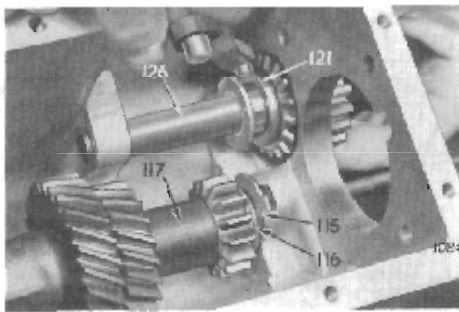

Fig. 31.
Slide the reverse idler gear (121) over the shaft and engage its annular groove with the pin attached to the lower end of the operating lever (122) as shown on Fig. 31.
1. Assemble synchro springs (81), balls (83) and shims (82) to the 3rd/Top synchro hub (97). Fit the outer sleeve (95).